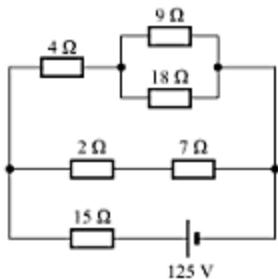

Fig. 2.47
21. In the circuit shown in Fig. 2.47, find (a) the current in  $15\text{-}\Omega$  resistance, (b) the voltage across  $18\text{-}\Omega$  resistance, and (c) the power dissipated in  $7\text{-}\Omega$  resistance.